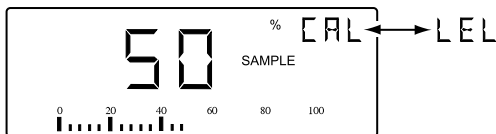

Figure B-7 50% LEL Display
9) The instrument display will now return to CAL mode display as shown in Figure B-7.